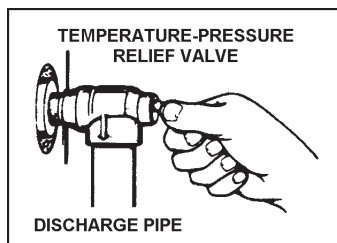

FIGURE 28.
When checking the temperature-pressure relief valve operation, make sure that (1) no one is in front of or around the outlet of the temperature-pressure relief valve discharge line, and (2) that the water discharge will not cause any property damage, as the water may be extremely hot, see Figure 28.